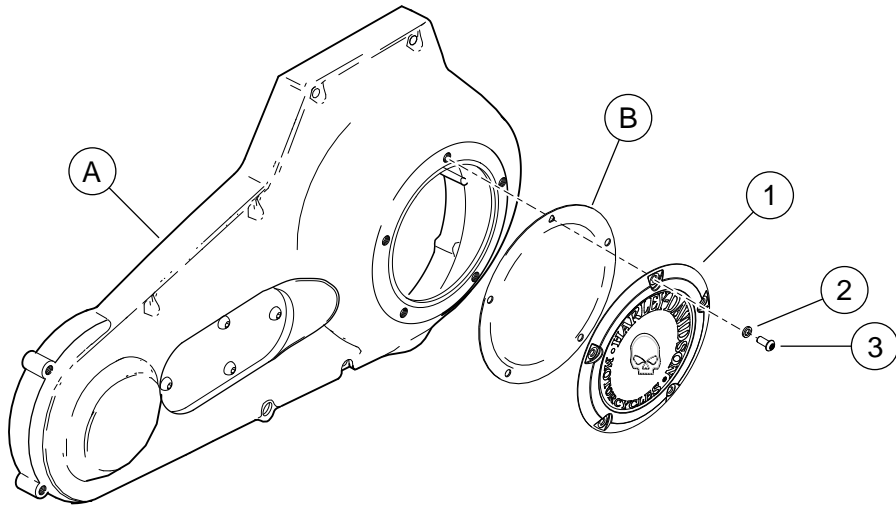

Figure 2. Service Parts: Derby Cover Kit
See Figure 2 and Table 1.
- b. See Figure 2. Place a washer (2) from the kit onto the threads of one of the **new** screws (3). Insert the screw threads through the top hole in the derby cover, and carefully thread it all the way through the triangular shaped hole in the gasket. Do not push the screw through the hole.